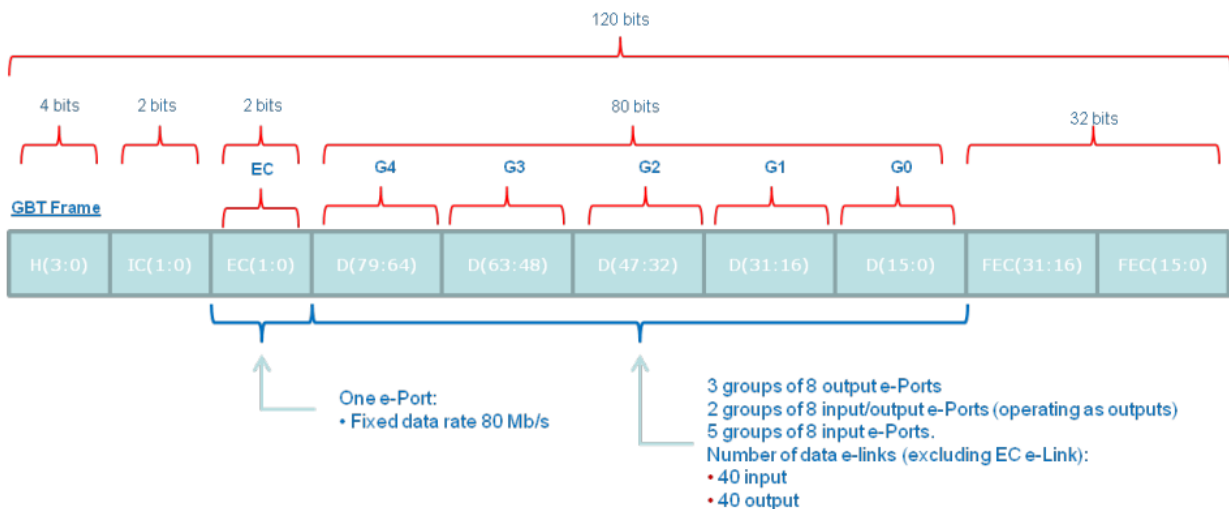

Figure 6 GBT frame structure
- The 120-bit “GBT frame format”, sketched in Figure 6, is transmitted during a single LHC bunch crossing interval (25 ns), resulting in a line rate of 4.8 Gb/s (120 bit * 40 MHz)